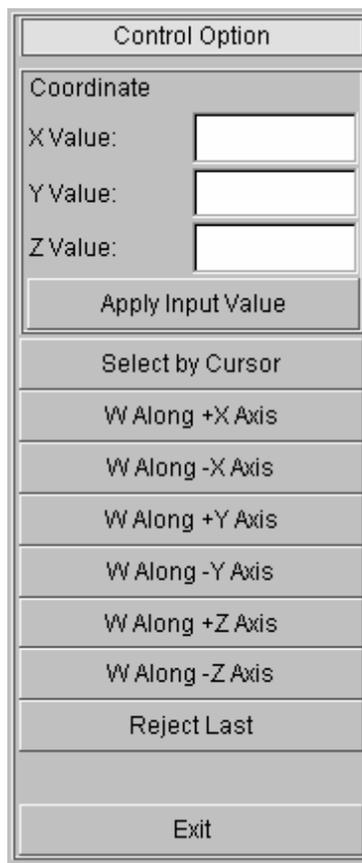

Figure 6.19 Section Cut menu
- To better view the springback result, you can create a section line along the part. Select menu **Tool**→**Section Cut**, as shown in Figure 6.19.